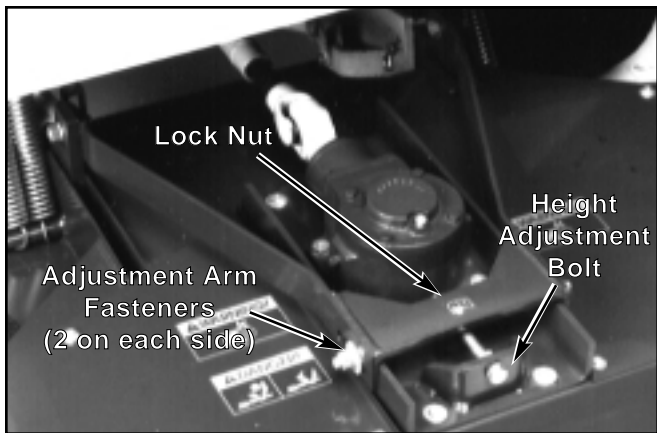

Figure 3-10
1. Loosen and back-off lock nut on height adjustment bolt (Fig. 3-10), then loosen the nuts on the bolts at front and rear of adjustment arms.